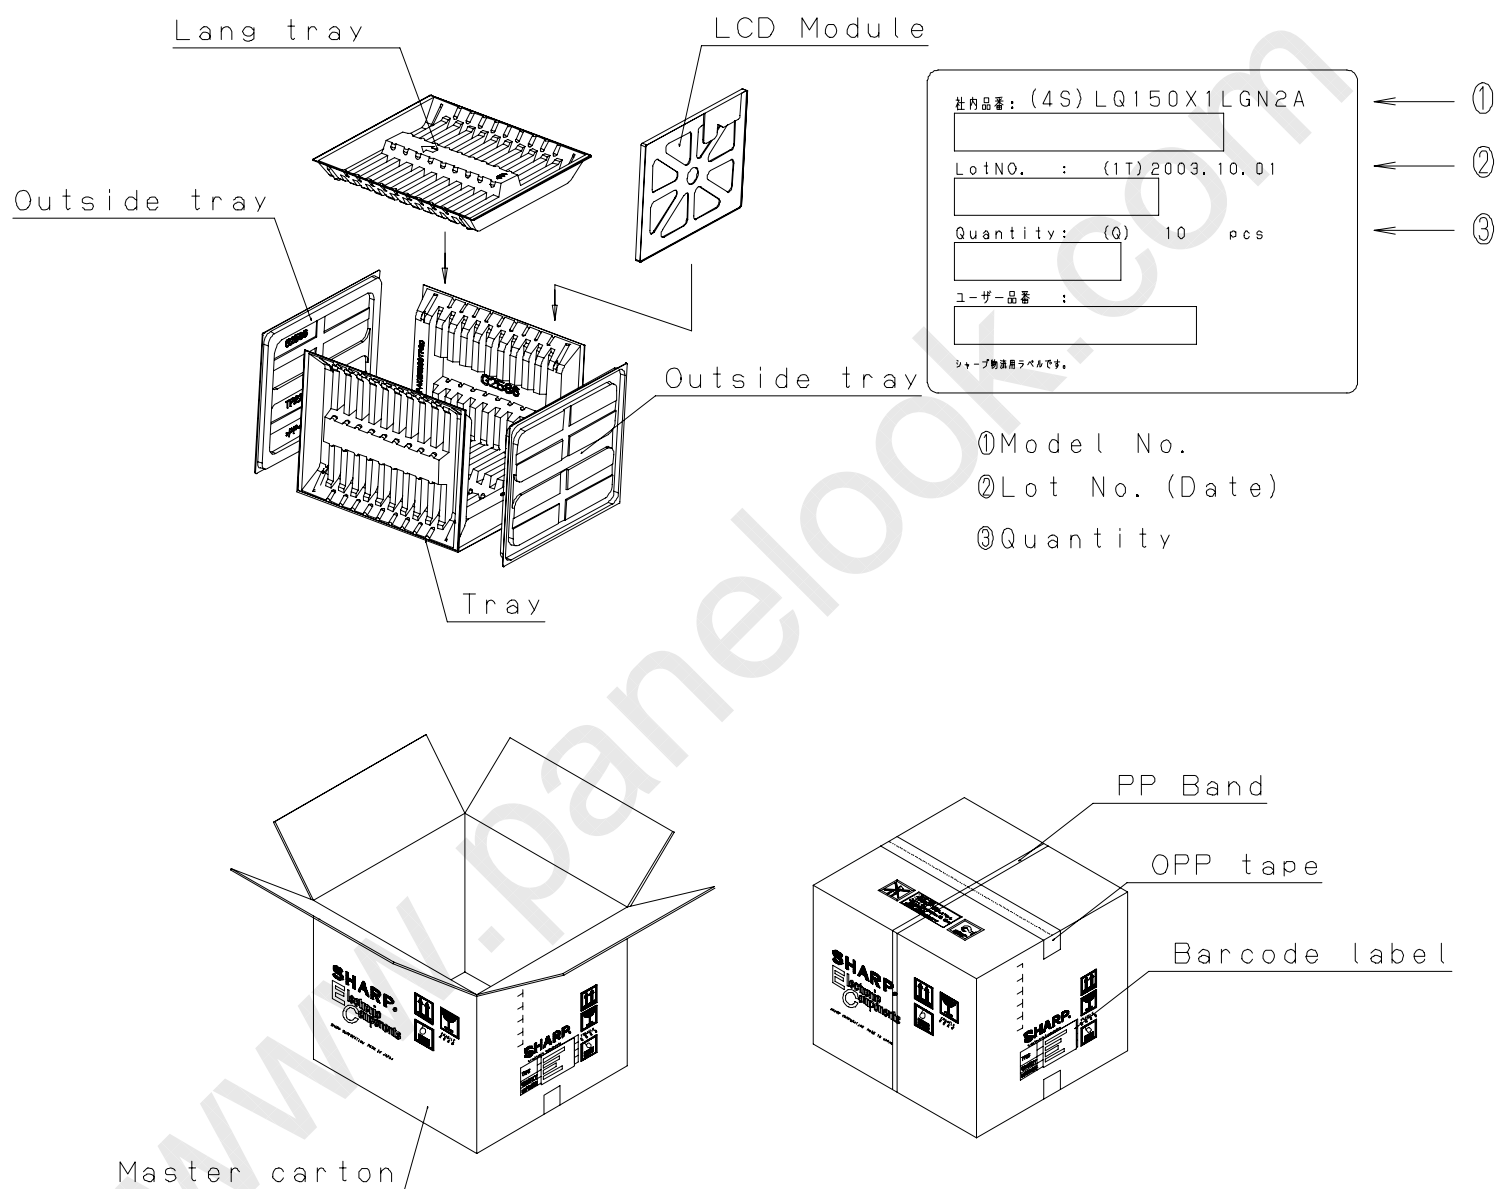

Fig.3 Packing Form (LQ150X1LGN2A)
- e) Packing form is shown in Fig.3